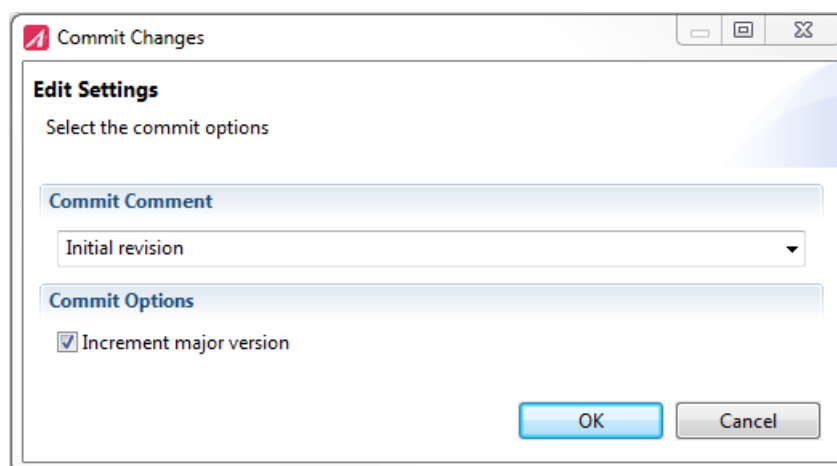

Figure 6.102: Comment for the initial revision of the commit
→ Enter a comment and click “OK” (see figure 6.102).
- A new version of the requirement will be created and you need to decide either to increment the major or the minor version number within the check-in dialog (see figure 6.102).